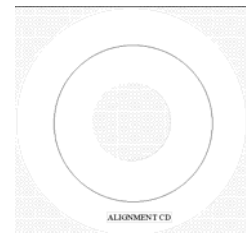

Figure 1
1. Place an Alignment CD (see figure 1) directly on the belts below the input hopper. The robotics will not load the disc for you.